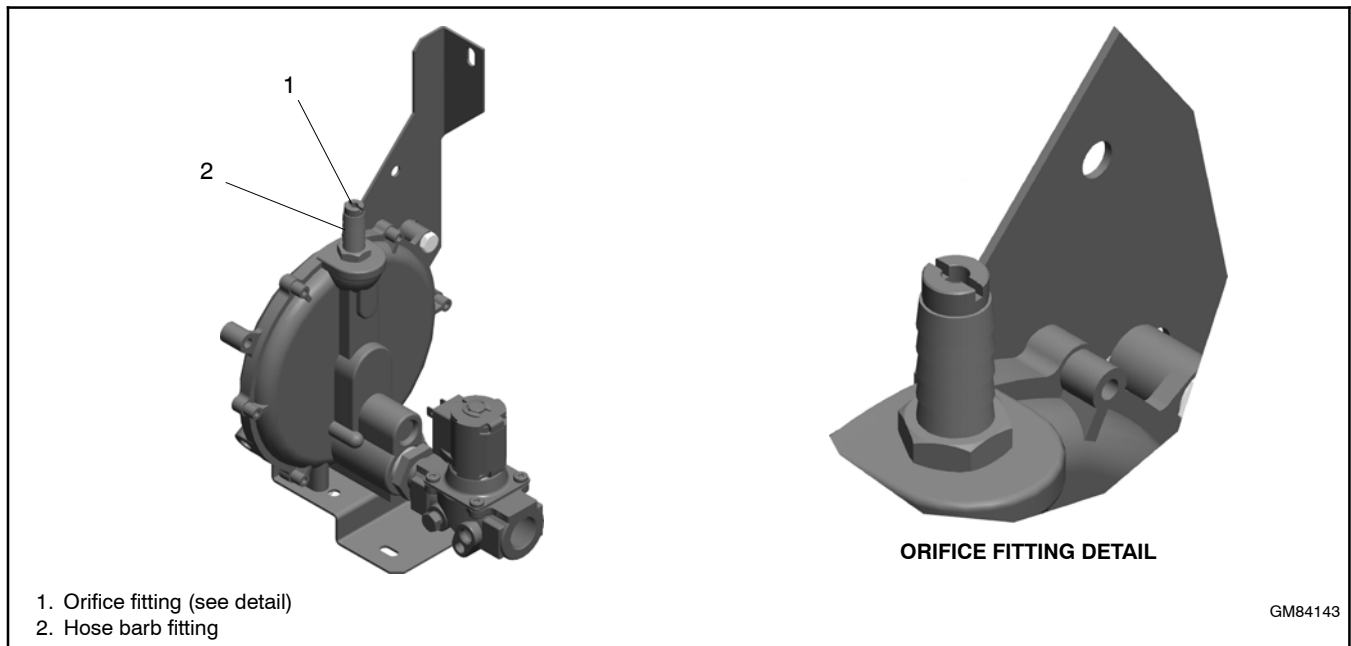

Figure 6-36 14RESA/RESAL Fuel System Showing Orifice Fittings (generators built after June 26, 2014)
6. Use a straight-blade screwdriver to remove the NG orifice from the hose fitting. See Figure 6-36.